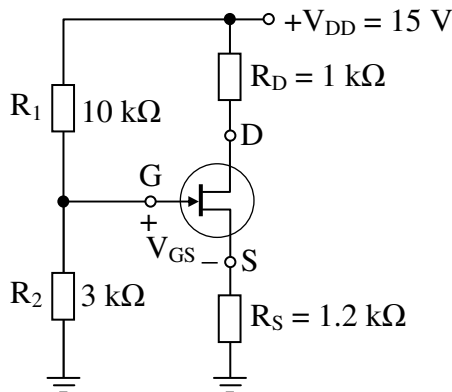

Fig. 7.9 Voltage divider-bias circuit
In the voltage-divider-bias configuration V_{GS} is determined by a voltage-divider-bias voltage and voltage drop across the source resistance. That is, for the network of Fig. 7.9.
1. Construct the network of Fig. 7.9. Insert the measured resistor values: